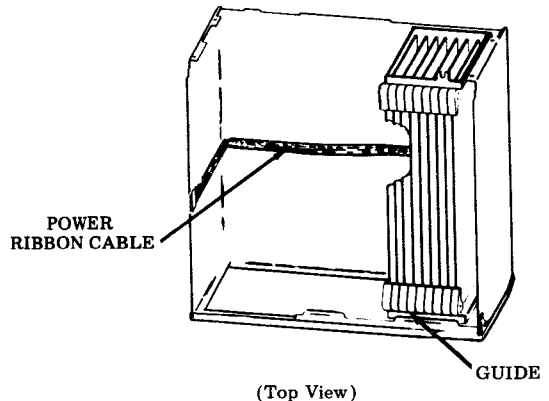

Fig. 28
Step 10 — Position the display logic over the guide in the module frame and route power ribbon cable flat against bottom of module frame to the opposite side (Fig. 28).